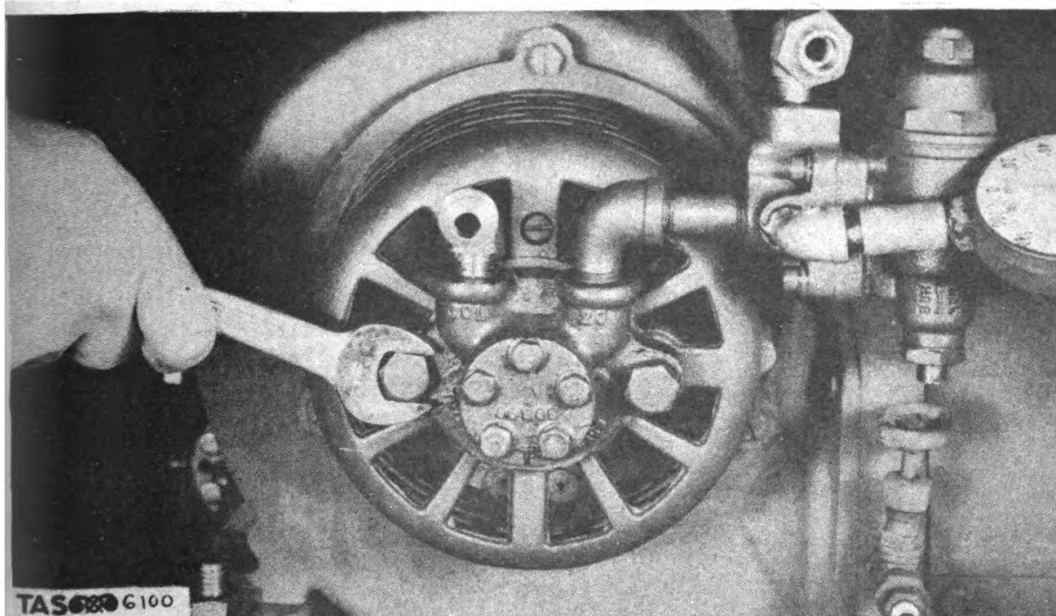

Fig. 100. Removing Two Cap Screws Holding Pump Assembly to Rest of Pump and Guard Assembly.
- 2. Remove two cap screws holding pump assembly to rest of pump and guard assembly. (See fig. 100.)